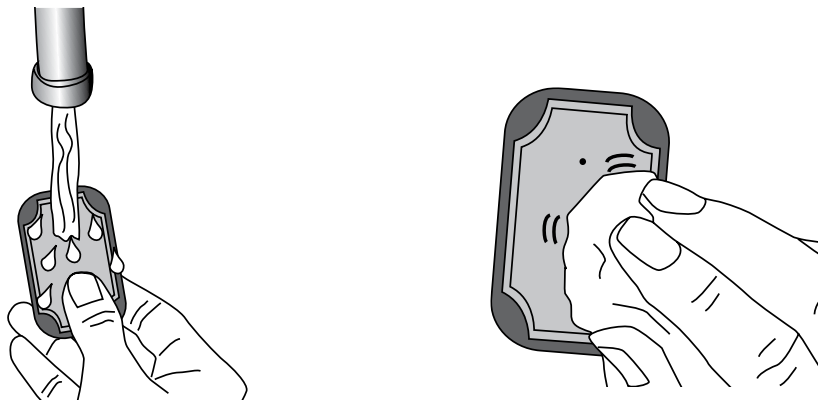

Figure 6-18: (Left) Wetting the Cloth Electrode (Right) Blotting the Cloth Electrode
2. Wet the cloth electrodes until they are saturated. See Figure 6-18.
3. Blot excess water from the cloth electrodes. See Figure 6-18.